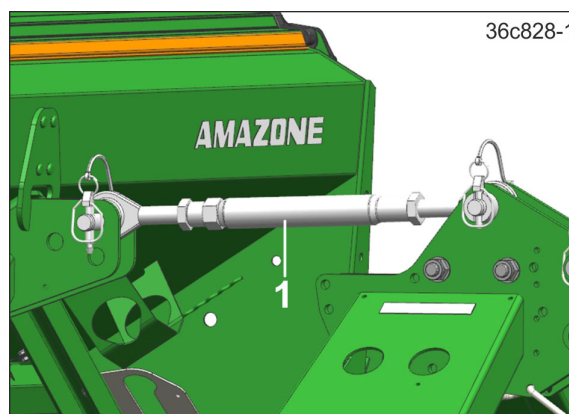

Fig. 102
11. Remove the top link (Fig. 102/1).